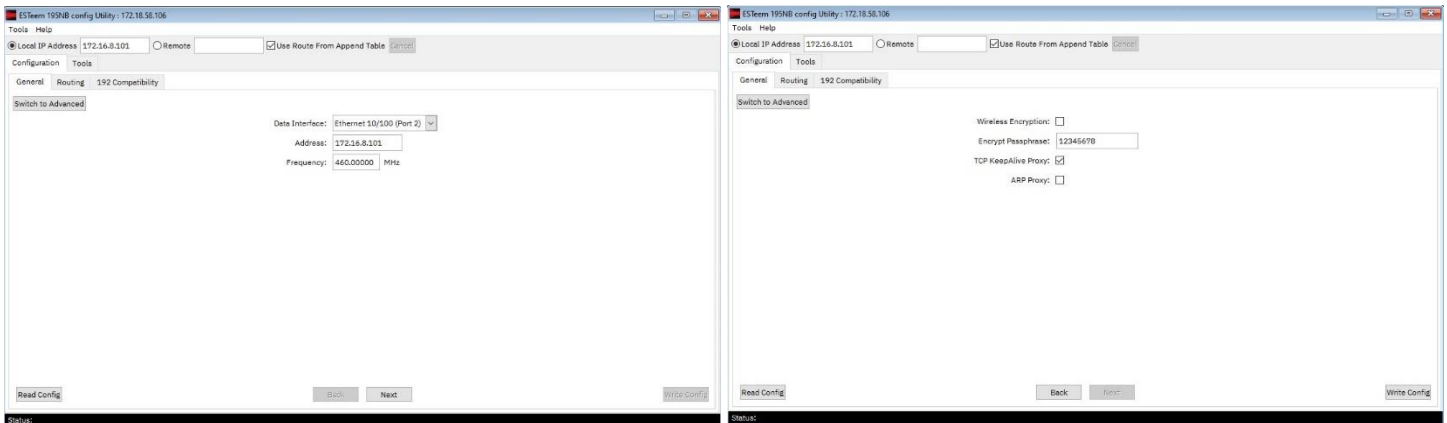

Figure 3: Ethernet Configuration Page
- D. Press the “Next” button to proceed to the next page of the tool (Figure 3).